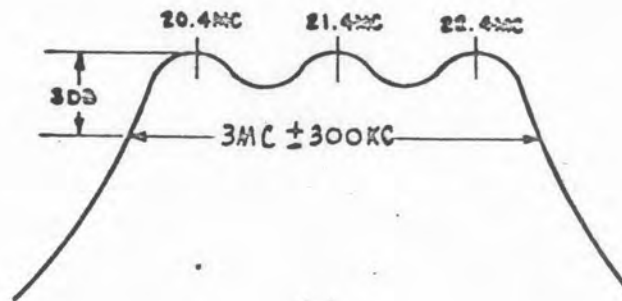

Figure 5-4
d. Using the calibrated 21.4-mc marker as a reference, adjust L405 and L406 for an over-coupled response curve centered about the 21.4-mc marker and 3 mc (± 300 kc) wide at the 3-db points similar to that shown in figure 5-4.
- g. Adjust L401 through L406 to obtain a response 3 mc +300 kc wide at the 3-db points, similar to that shown in figure 5-4.